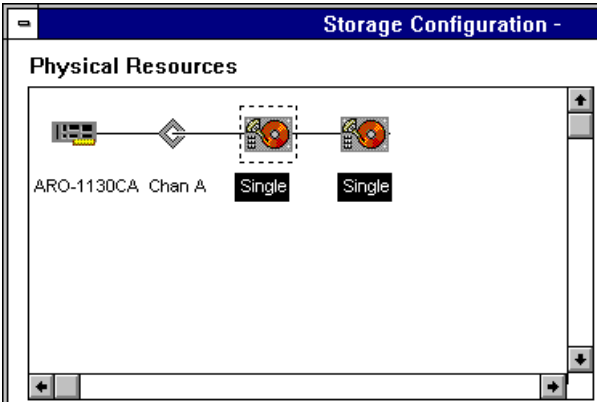

Figure 3-2. Selecting Array Members
- Select disks for the new array by clicking disk icons  that have the word **Single** beneath them, as shown in Figure 3-2.